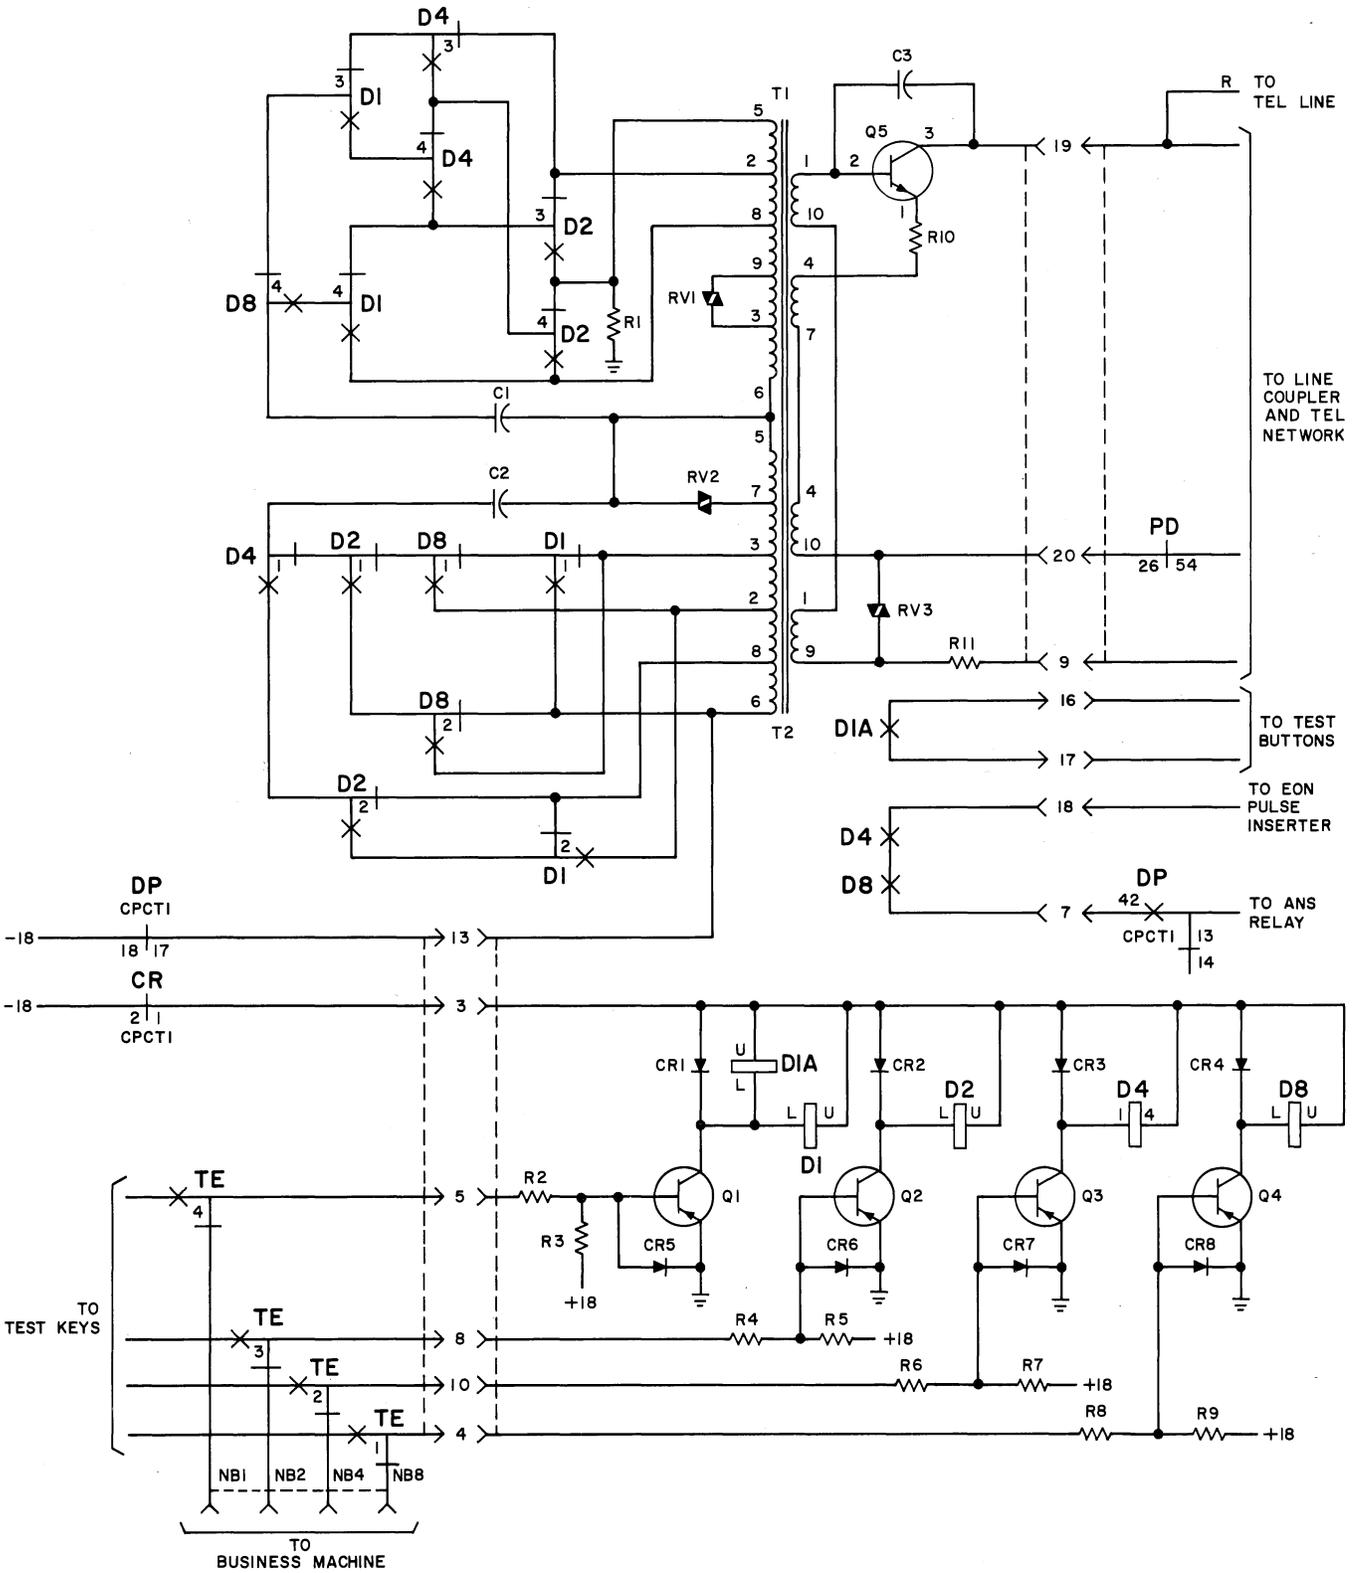

Fig. 12—12-Combination TOUCH-TONE Transmitter and Control Circuit—Schematic Diagram
3.28 Figure 12 shows the schematic diagram for a 12-combination TOUCH-TONE transmitter. This transmitter is almost identical to the 10-combination transmitter previously described, with the exception of the contact arrangement of the TOUCH-TONE transmitter and other minor changes which provide for the generation of 12-tone combinations instead of 10 (refer to Fig. 12). Operation of the relay drivers controlling the TOUCH-TONE oscillator is the same as described in the preceding text (see 3.27).